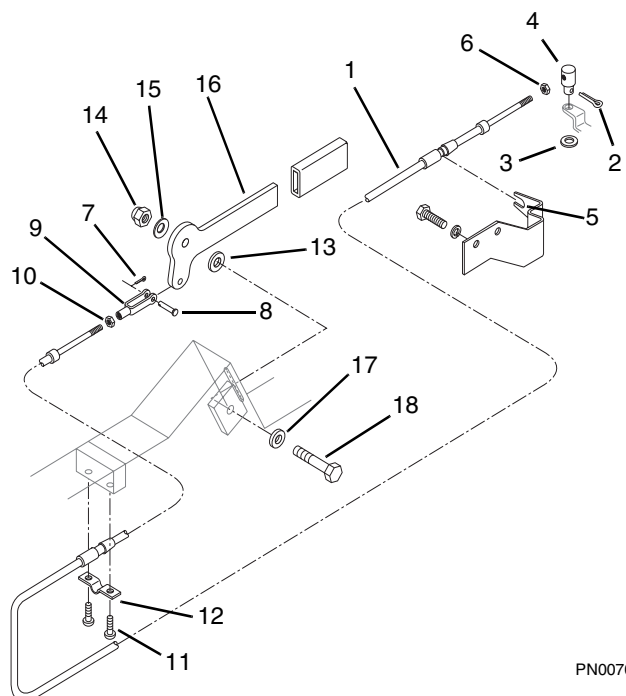

Figure 7-74 Throttle Cable
3. Disconnect throttle cable (Fig. 7-74, 1) from fuel injection pump by removing the cotter pin (2) and washer (3), and lift the rod end (4) from the injection pump lever.
4. Remove cable from notch in bracket (Fig. 7-74, 5).
6. Disconnect the clevis (Fig. 7-74, 9) from the throttle lever (16) by removing the cotter pin (7) and clevis pin (8).
7. Remove the screws (Fig. 7-74, 11) and cable clamp (12). The cable is now free to be removed.
8. Remove the throttle control lever (Fig. 7-74, 16) from the mount by removing elastic locknut (14), belleville washer (15), friction pad (13), flat washer (17), and capscrew (18).
9. Inspect lever (Fig. 7-74, 16) for damage or distortion.
10. Inspect cable (Fig. 7-74, 1) for kinks or other damage that prevents smooth operation.
11. Replace used elastic locknut (Fig. 7-74, 14) with new.
1. Reinstall the throttle control lever (Fig. 7-74, 16), capscrew (18), washer (17), friction pad (13), belleville washer (15), and new elastic locknut (14).
2. Adjust initial lever friction by tightening the capscrew (Fig. 7-74, 18) and elastic locknut (14) until a slight drag is felt on the lever as it is moved throughout its entire range of travel.